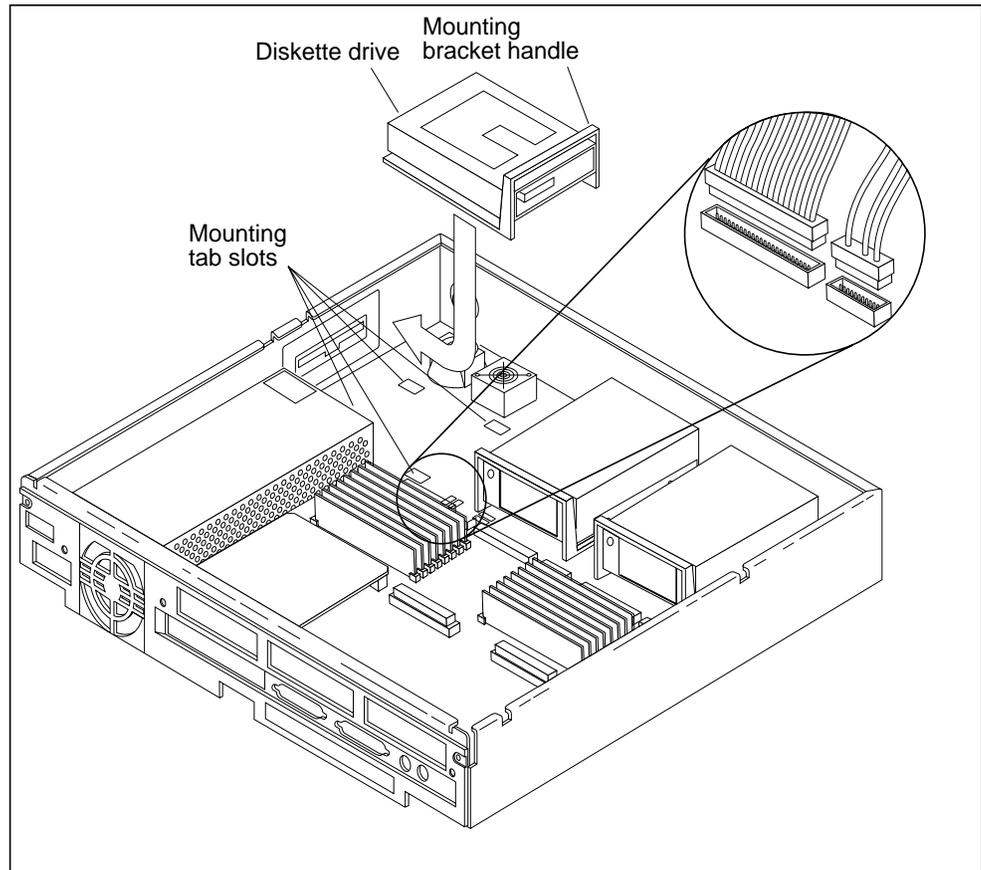

Figure 3-3 Installing or Removing the Diskette Drive
- 3. Grasp the diskette drive mounting bracket handle (see Figure 3-3). Pull it up slightly to release the locking tabs on the bottom of the mounting bracket.**
4. Align the four mounting tabs on the bottom of the drive mounting bracket with the slots in the bottom of the chassis (see Figure 3-3 on page 3-5).